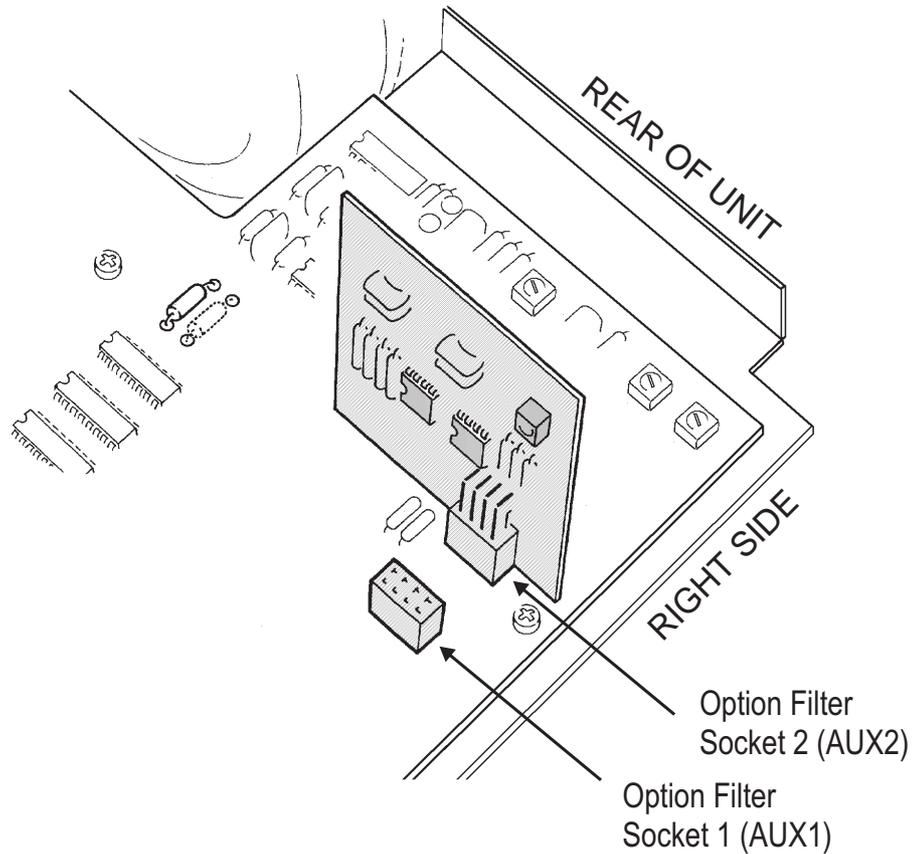

Figure 8-2 Location and Orientation of Option Filters
4. Remove the chassis and panel assembly from the top half of the plastic case by lifting directly upwards. Turn the chassis over so that it is right-side-up. The two sockets for option filters are located near the right rear corner of the main circuit board. They are labeled FILTER1 and FILTER2 on the circuit board. Remove any filters to be replaced and add any filters to be installed. Plug in the filters in the orientation shown in Figure 8-2.